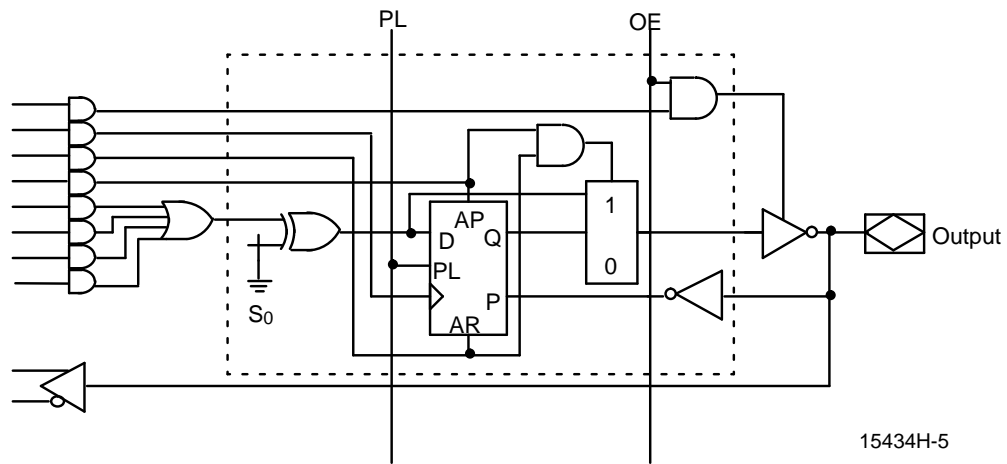

Figure 1. PALCE20RA10 Macrocell
The PALCE20RA10 has ten dedicated input lines and ten programmable I/O macrocells. The Registered Asynchronous (RA) macrocell is shown in Figure 1.  $\overline{PL}$  serves as global register preload and  $\overline{OE}$  serves as global output enable. Programmable output polarity is available to provide user-programmable output polarity for each individual macrocell.